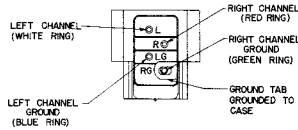

FIGURE 1
See Figure 1: Right "hot" lead (usually red) to "R," right ground (usually green) to "RG," left "hot" lead (usually white) to "L," left ground (usually blue) to "LG." If metal head is causing ground loop hum, remove the ground tab. The metallic cartridge shield is disconnected from the right channel ground by removal of the ground tab.
2. Connect leads to cartridge (see Figure 1).
2. Enfillez les cosses sur la cellule (voir fig. 1).